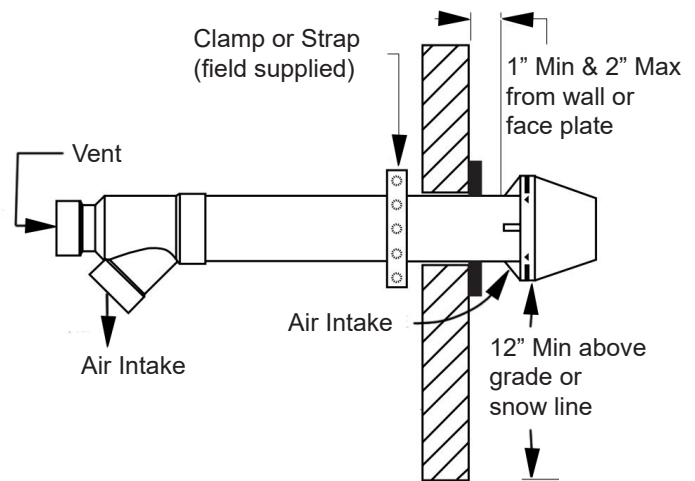

Figure 14. Concentric Termination Installation
1. Concentric terminals must be installed so that the horizontal distance between the wall and the air intake is between 1 and 2 inches (2.5 to 5 cm). See Figure 14.